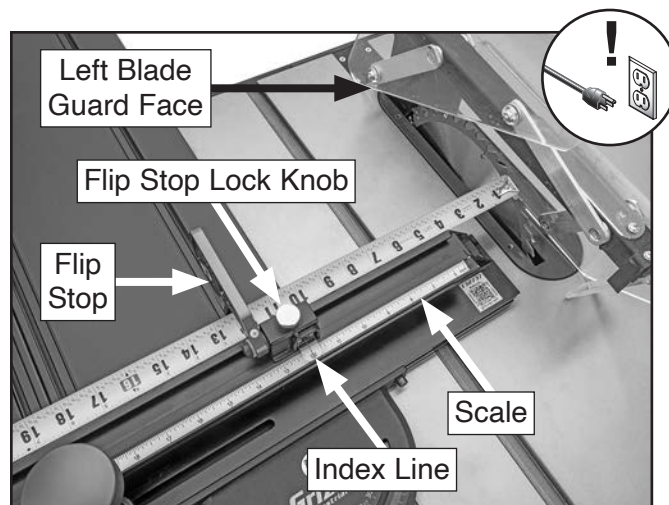

Figure 25. Measuring distance from blade to flip stop.
5. Measure 12" from blade tooth, then move flip stop so inside face of stop is positioned at 12" mark (see **Figure 25**). Tighten flip stop lock knob to secure.
6. Position fence scale so 12" mark on scale is aligned with index line in flip stop window (see **Figure 25**).